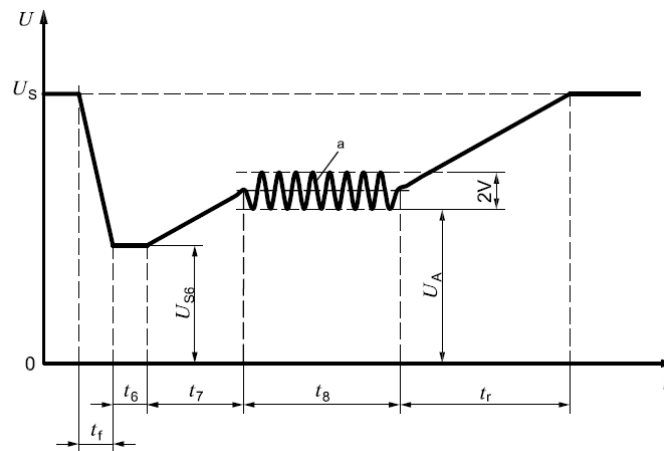

Figure 46. Voltage Profile to Test a Cranking Event
- To emulate a cranking event, voltage profile describe in Figure 46 is used. U_S , U_{S6} , and U_A are applied directly to V_{BAT} .